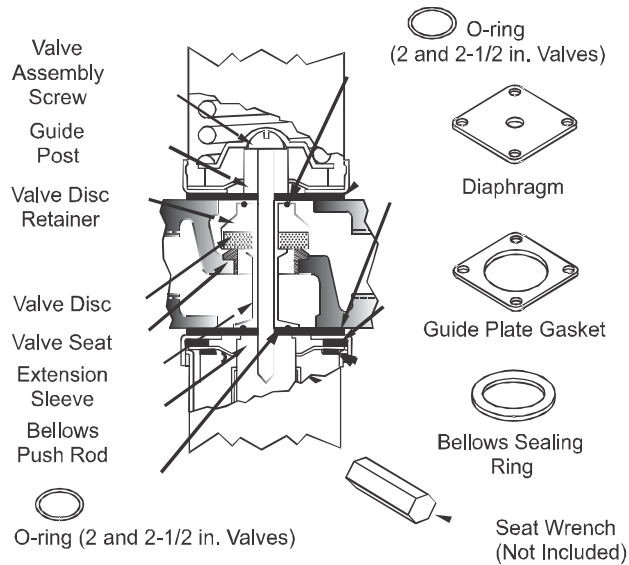

Figure 3: V46 and V47, 2 in. and 2-1/2 in.
3. Remove the valve assembly screw (Figure 3).
4. Remove the guide post and old diaphragms (Figure 3).
5. Remove the sensing element and the diaphragms between it and the valve body (Figure 3).
6. Pull the disc, disc retainer, and extension sleeve assembly from the valve (Figure 3).
7. Remove the old valve seat and replace it with the new valve seat (Figure 3). (A seat wrench is not provided for 2 and 2-1/2 in. valves. Use 1-1/2 and 1-15/16 in. hex stock, respectively.)
13. Screw the valve assembly screw through the guide post and into the bellows push rod (Figure 3).